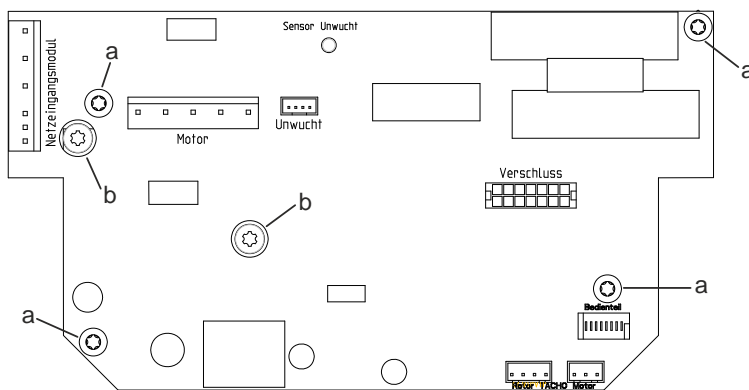

Fig. 4
- Screw the six fastening screws out of the electronics (Fig. 4, a, b).
- 👉 The two screws (Fig. 4, b) are located on the cooling plate of the electronics (A1).